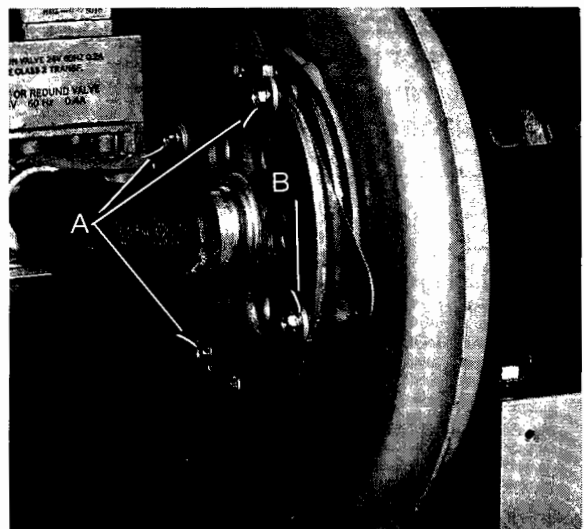

FIGURE 16
1. Loosen screws A (3) with 1/4" box or open end wrench. (Fig. 16)